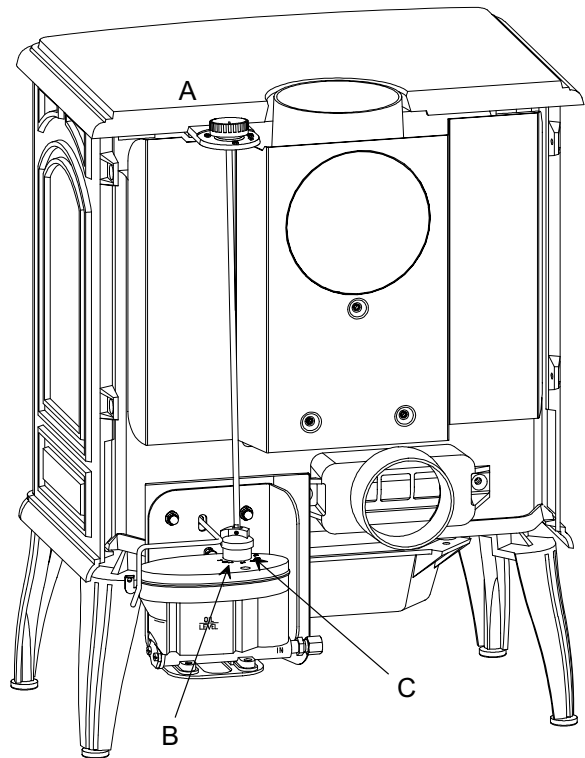

Figure 18
Turn the control knob 'A' to the (1) dial setting and allow the burner to run for a few minutes. The flame must completely cover the bottom of the burner pot and the catalyser should glow red. If the flame is too small, the oil stove will quickly soot up. Turn the set screw 'B' (figure 18), located on the top of the carburetor, clockwise with a screwdriver to increase the flow of oil.
Gradually turn the control knob 'A' to dial setting (6) and allow the burner to run for a few minutes. The flame should be in a cone form with the top level with the upper part of the door. If the flame is too low, the oil flow rate should be increased by turning the set screw 'C' (figure 18), on the carburetor counter-clockwise. If the flame is too high, turn the screw clockwise.